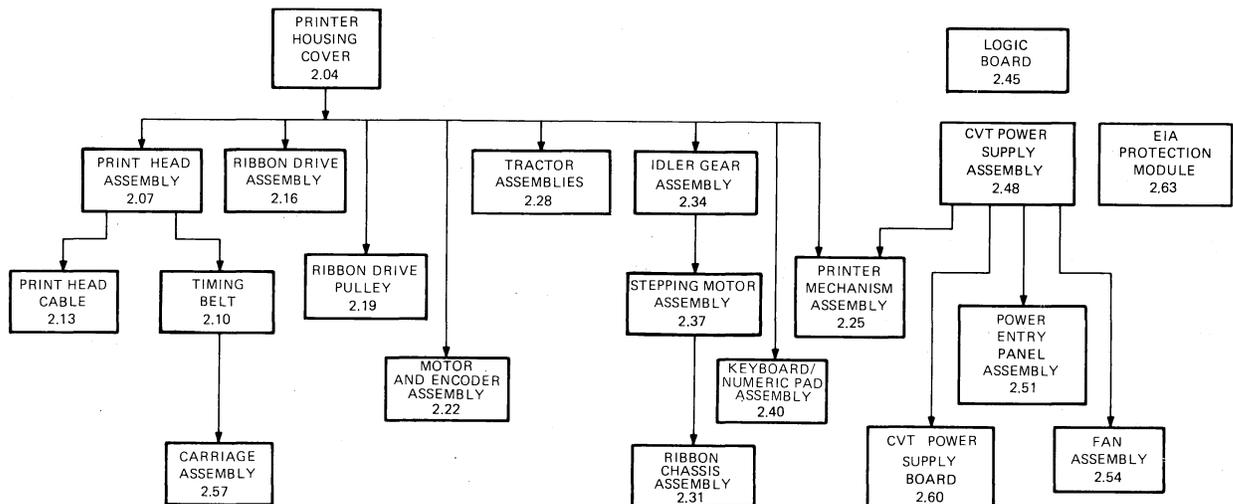

Fig. 1-Assembly Removal Sequence
2.02 Figure 1 lists all of the removal procedures in this chapter and the sequence in which these procedures are performed. As an example, Figure 1 illustrates that to remove the power entry panel assembly, the power supply assembly removal procedure must be performed first.